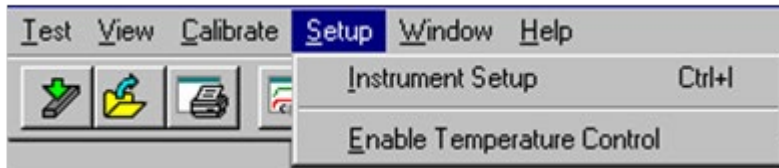

Figure 13: Instrument Setup
2. Select **Instrument Setup** from the BBRw menu options. Refer to Figure 13.